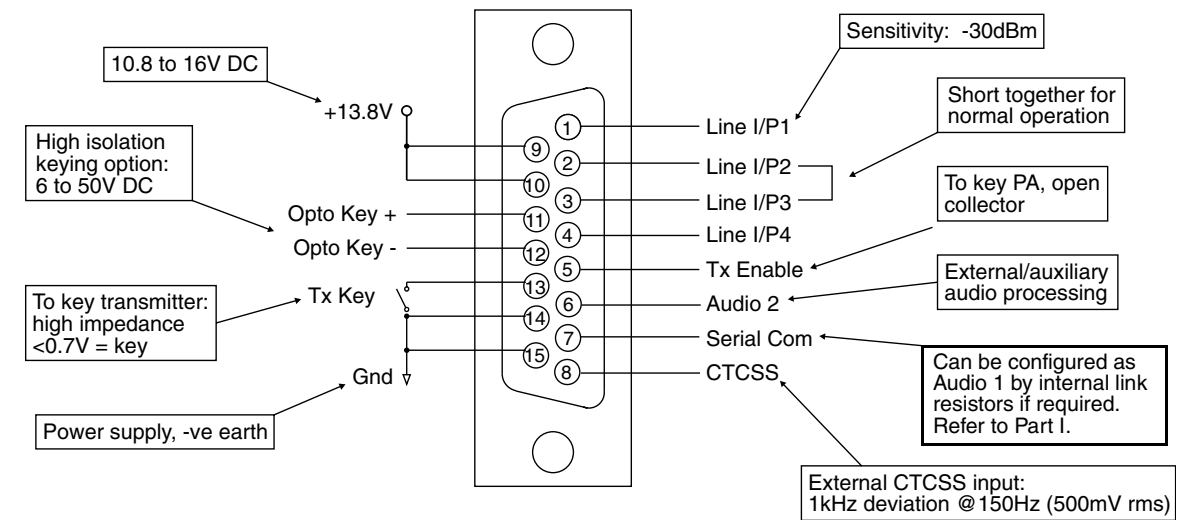
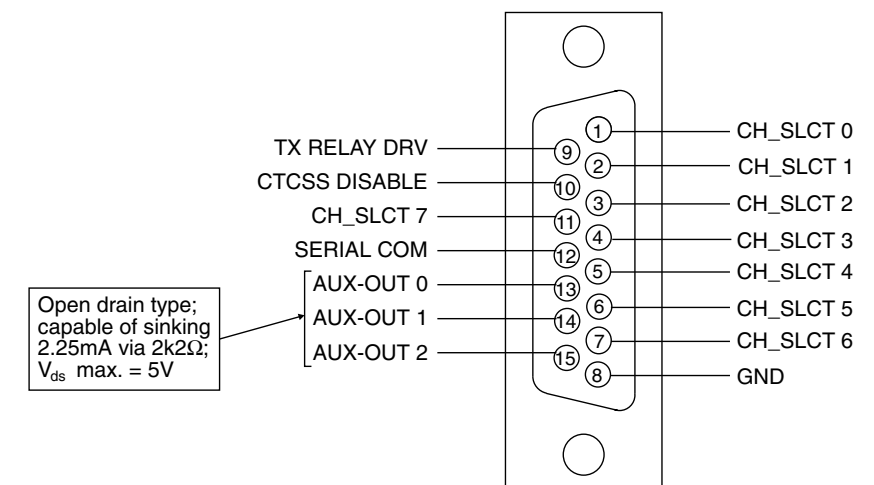

Figure 2.3 T836/837 D-Range 1 Wiring - Rear View
Figure 2.4 T836/837 D-Range 2 Wiring - Rear View (standard T800-03-0000 kit)
The D-range input and output connections are shown in Figure 2.3 and Figure 2.4. Ensure that the cables are not subjected to any stresses due to tight bends or incorrect lengths.
**Note:** Figure 2.4 above shows the standard pin allocations for the T800-03-0000 auxiliary D-range kit. A T800-03 auxiliary D-range kit is also available for special applications requiring custom internal wiring.